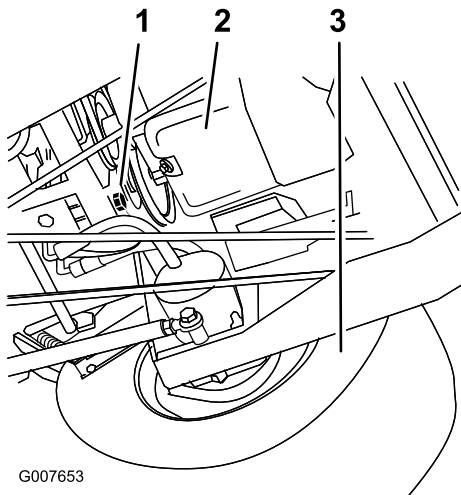
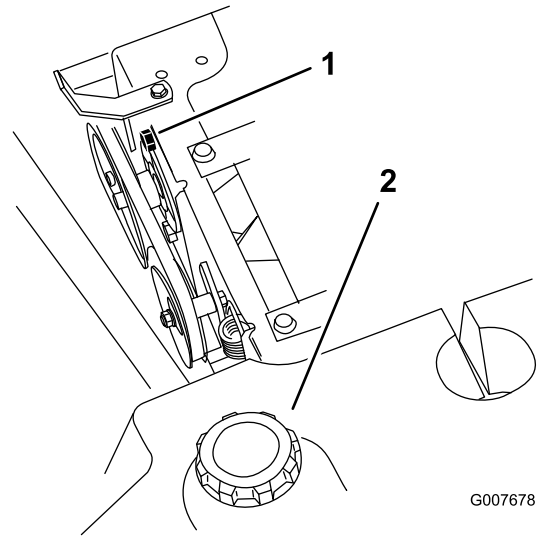
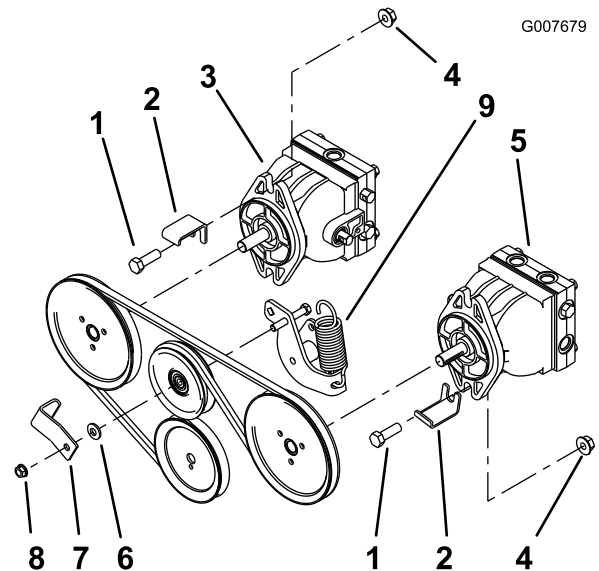
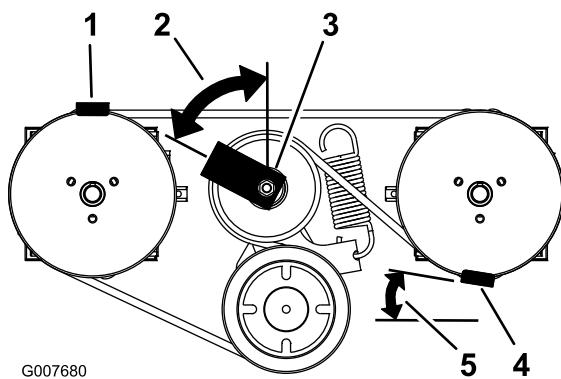

Figure 6
Figure 7
Figure 8
Figure 9
2. Install the belt guide with a new bolt (1/2 x 1-1/2 inches) and nut previously removed (Figure 6 and Figure 8). Make sure the pulley belt guide is installed at the angle as shown in Figure 9.
4. Install the belt guide with a new bolt (1/2 x 1-1/2 inches) and nut previously removed (Figure 7 and Figure 8). Make sure the pulley belt guide is installed at a 62 degree angle as shown in Figure 9.